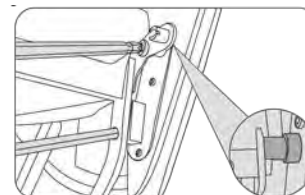

Figure 7
- Put the plastic block between the armrest and the calf rest pothook, then tighten the up and down screws. (Figure 7)